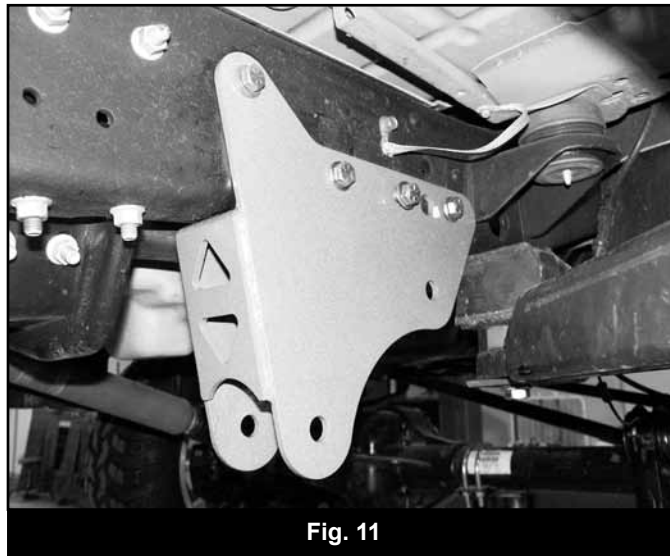

Fig. 11
39. Place the new passenger's side 4-Link bracket (02027) up to the frame and align the existing rivet holes with the corresponding holes in the bracket. Attach the bracket with $\frac{1}{2}$ " x 1-1/2" bolts, nuts and $\frac{1}{2}$ " SAE flat washers from bolt pack #432. Torque $\frac{1}{2}$ " hardware to 90 ft-lbs. (Fig. 11, 12)